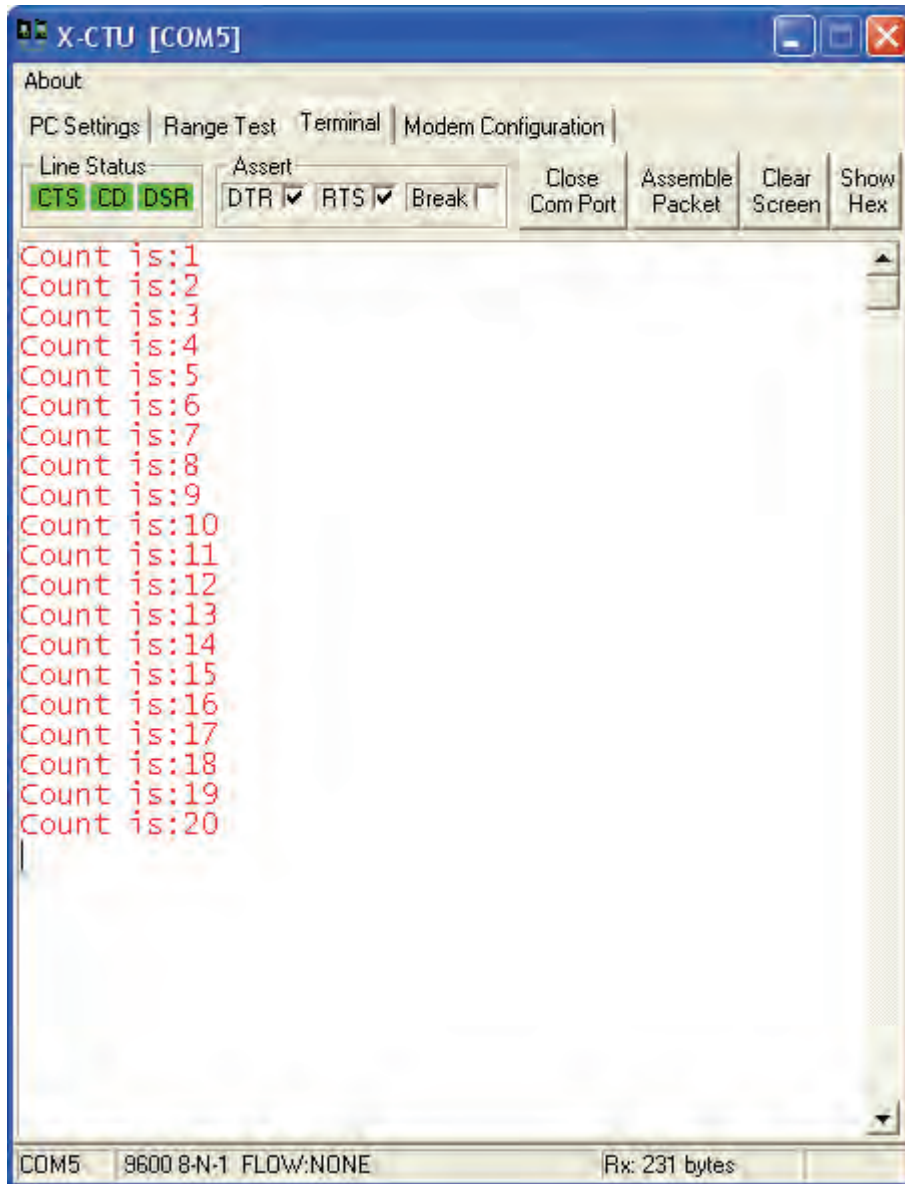

Figure 4-12: Simple Debug Monitoring
- ✓ Download and run the program on the Remote node and monitor the Base node's terminal window as shown in Figure 4-12.